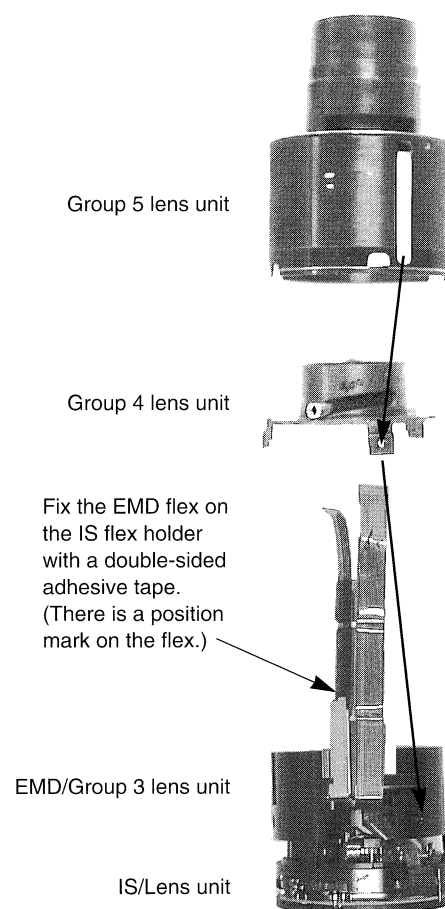
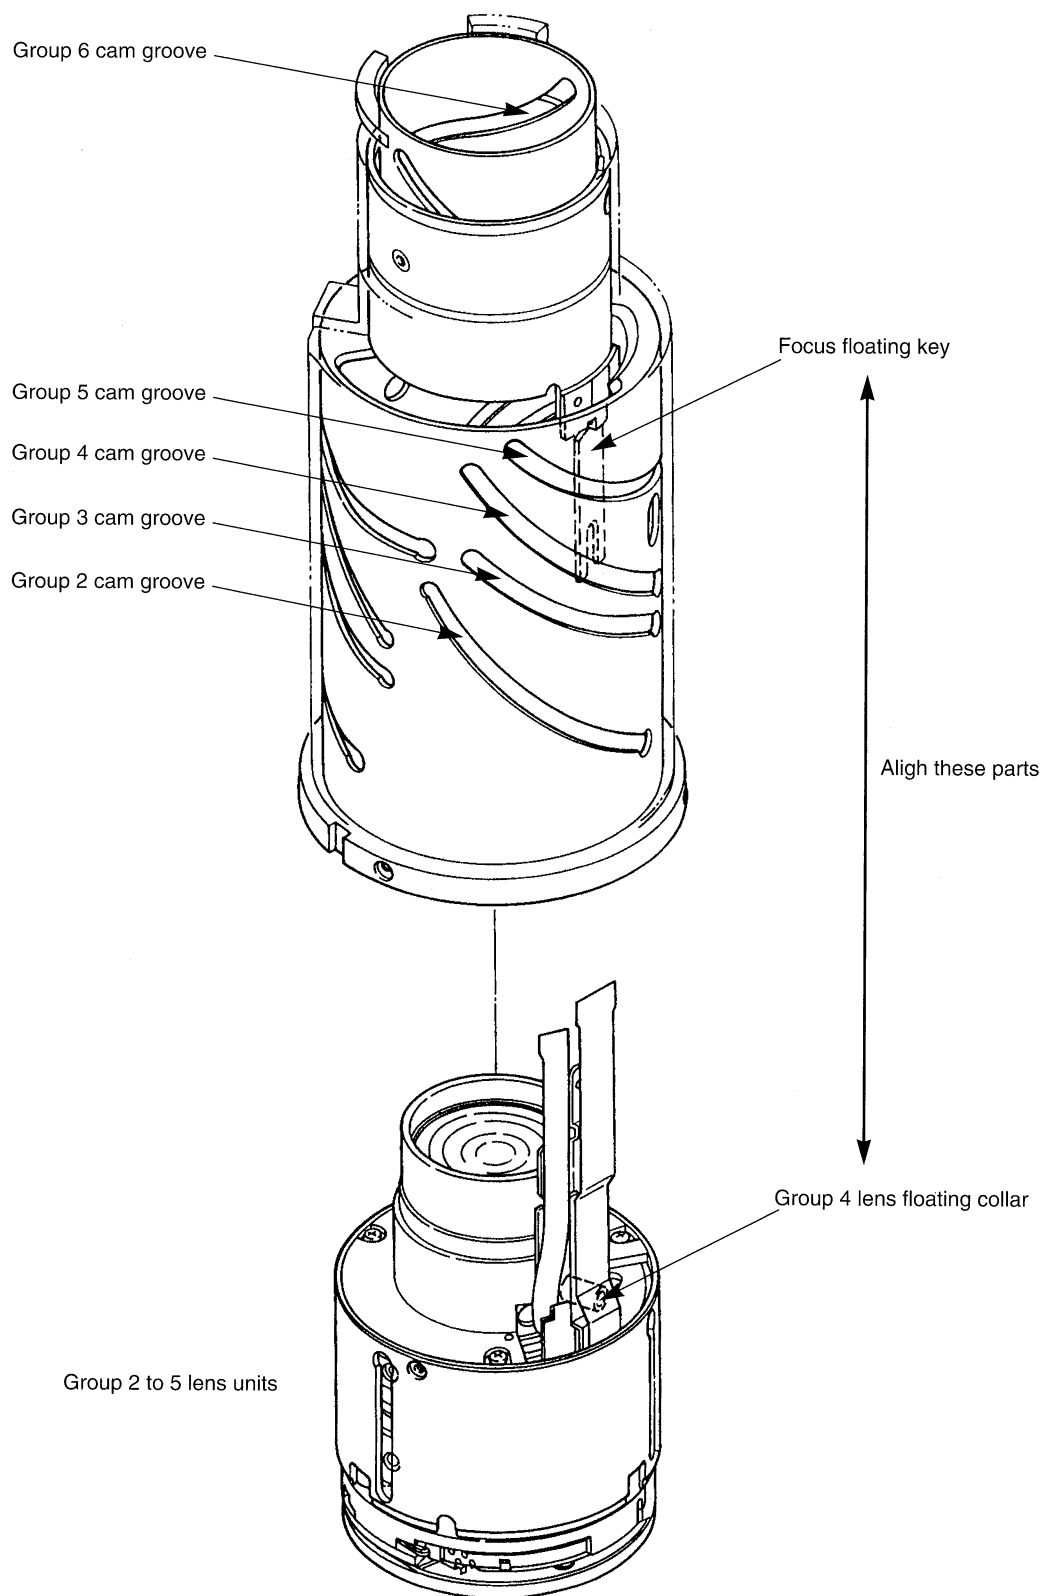

Fig. 3-13 Group 2 to 5 Lens Units
Fig. 3-14 Lens Unit Reassembly
- When reassembling the lens units, insert the group 2 to 5 lens units into the cam barrel as a set (see Fig. 3-13.). Then, install the group 4 collars (1)-4, group 3 collars (1)-2/(1)-3, group 5 collars (1)-5, I-FLEX holder, and group 2 eccentric collars (1)-1 in the order listed. The floating collar of the group 4 lens unit must be engaged with the floating key in the cam barrel. (See Fig. 3-14.)